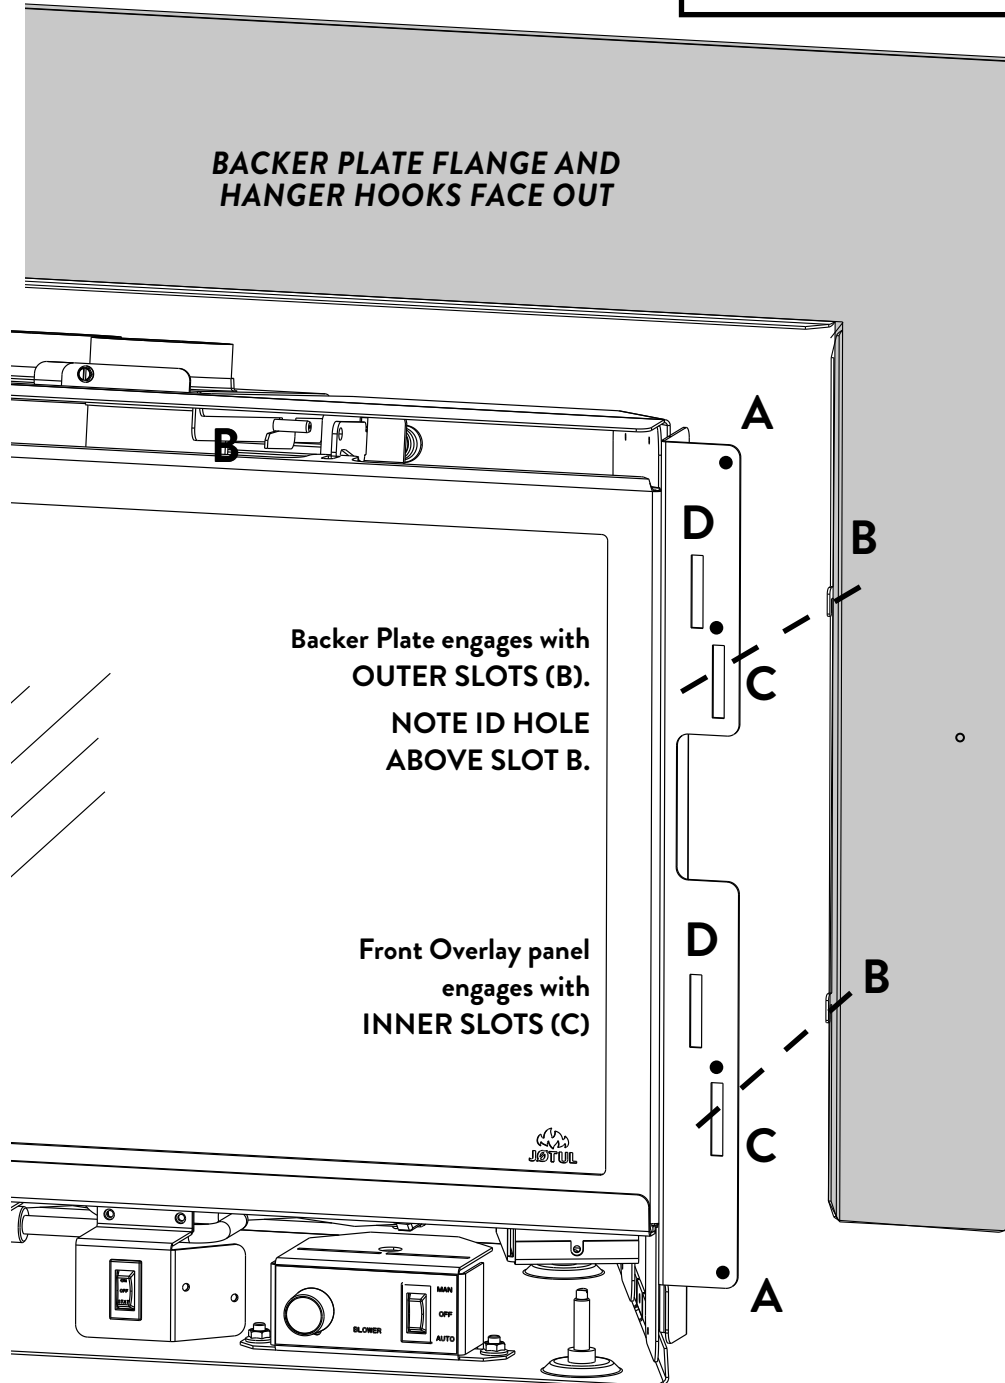

Figure 7.35
Both the Standard and Trimable Backer Plates incorporate four hanger hooks (B) that engage with the **outer** slots (C) through the **back** of the firebox brackets. Note the small identifying hole above each “C” slot. See fig. 7.35.
The Overlay hanger brackets engage with the **inner slots (D)** through the **front** of the firebox mounting brackets. See figs. 7.35 and 7.37.